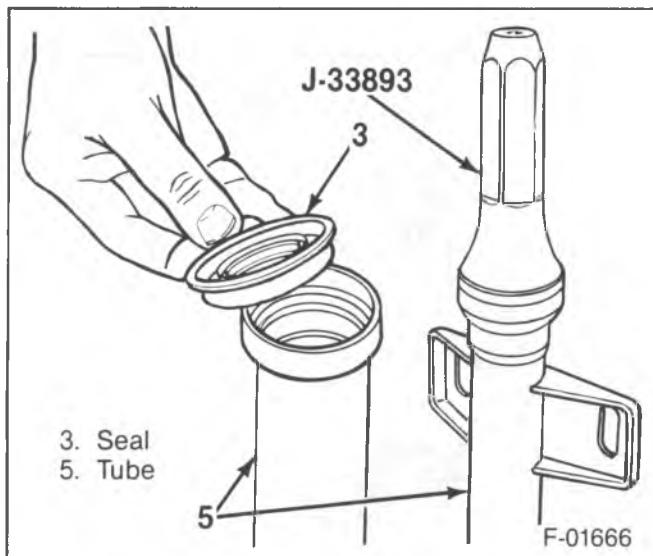

Figure 31—Installing the Shaft Seal
6. Shaft (59) with deflector (2). Tap into place.
7. Bearing (4). Use J 33844.
8. Seal (3). Use J 33893 (figure 31).